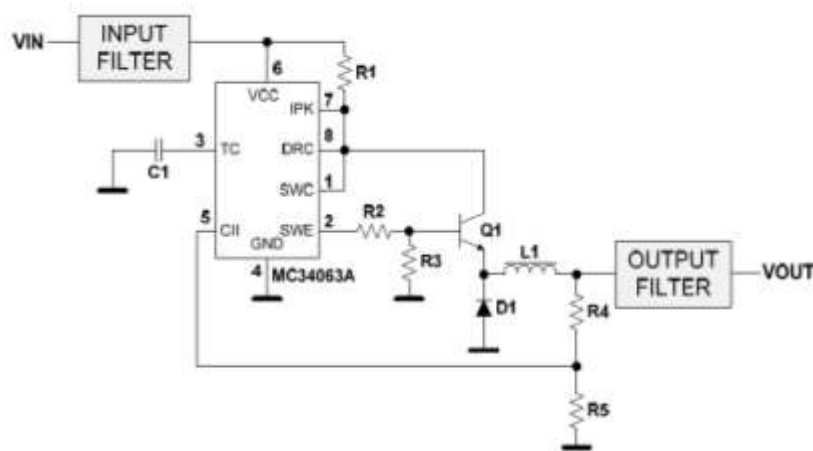

Figure 1
a) Firstly, I used the following schematic as reference (Figure 1)